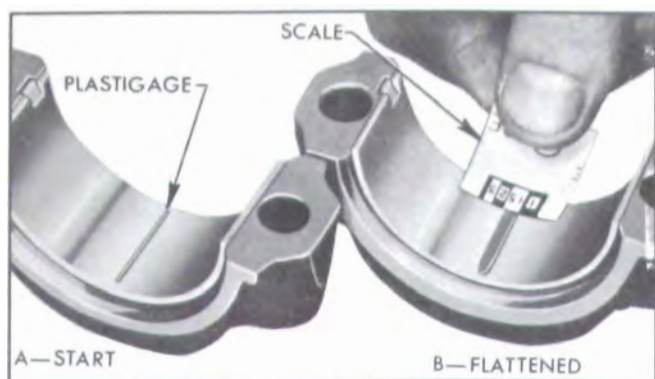

Figure 2-47—Checking Bearing Clearance With Plastigage
5. Using the scale printed on the Plastigage envelope, measure the flattened Plastigage at its widest point. The number within the graduation which most closely corresponds to the width of Plastigage indicates the bearing clearance in thousandths of an inch. See Figure 2-47, view B.